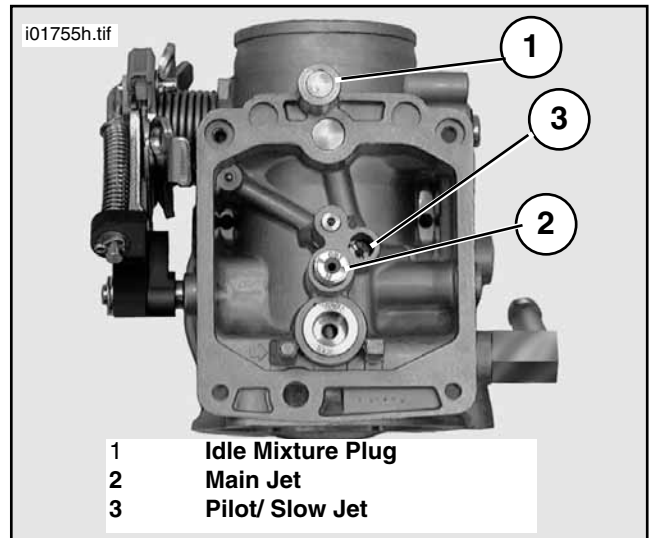

Figure 3. Idle Mixture Plug Location
3. See Figure 3 and Service Parts Illustration. Locate the Idle mixture plug (1). If you see a Idle mixture screw head not plugged, proceed directly to the adjusting procedure. With the plug drill bit (16) provided, carefully drill through the the plug. Use the screw (17) provided to secure and remove the plug.